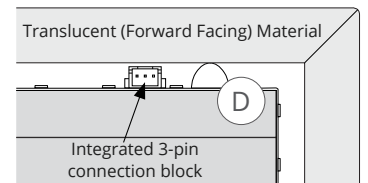

Figure 4
Rated for 400 lbs each, the domed protective bumpers (D) included with each Light Sheet have been engineered to bear the weight of translucent materials in horizontal applications and act as a safeguard in vertical applications so that the forward facing material does not harm the Light Sheet's integrated connection blocks or LEDs. Evo-Lite recommends using eight bumpers per Light Sheet (approximately six per square foot), spacing them evenly to distribute the weight of the forward facing material (see Figure 4) and to add a level of protection in vertical applications when the forward facing material will be positioned near the Light Sheet (see Figure 5). A rigid, non deforming mounting surface/substrate must be used with any weight bearing applications to avoid damaging the Auragami Light Sheet.